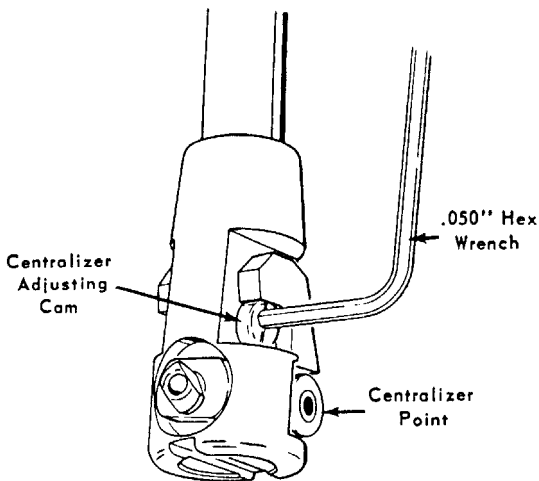

FIGURE 13
1. Insert the long leg of a .050" hex wrench into the socket of the Centralizer Adjusting Cam (see Figure 13). Turn the hex wrench until the Centralizer Points are fully retracted.